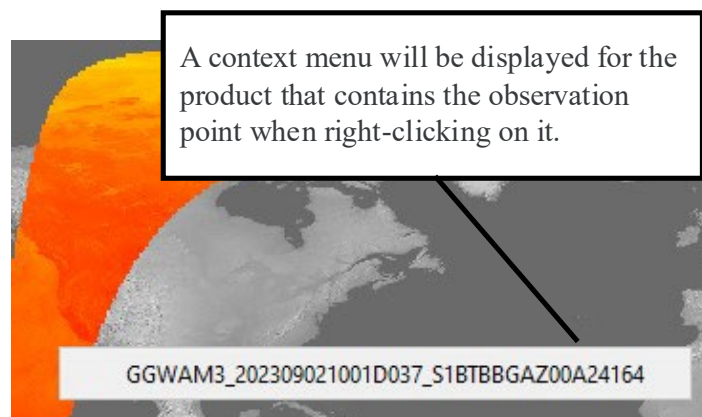

Figure 5-5 Right-clicking on an Observation Point of a Product
- Right-clicking on an observation point of a product displayed on the map will show the file name (without extension) of the product in a context menu. Refer to Figure 5-5. Additionally, clicking on the product's file name will display the ancillary information of the product. For details on the ancillary information display function, refer to Section 7.4.